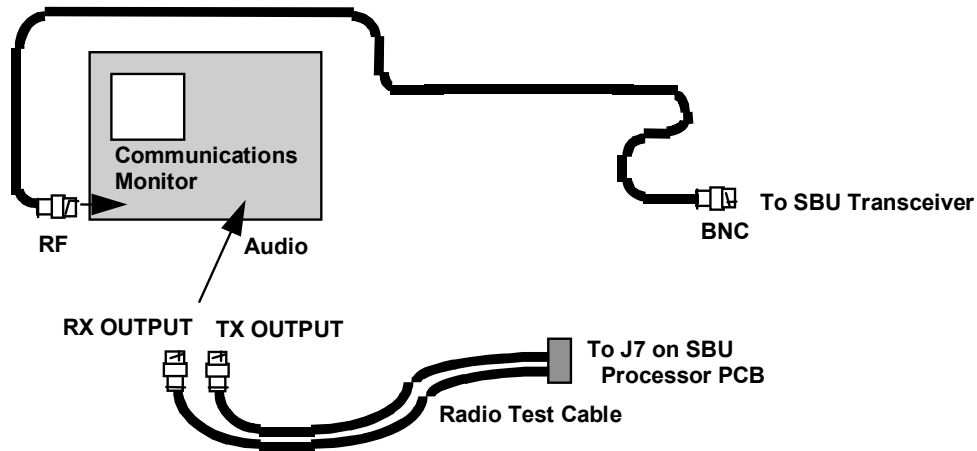

Figure 2-8 - Connection to Communications Monitor
3. Disconnect the Watt Meter from the SBU and connect the SBU to the Communications Monitor RF IN/OUT port as shown in Figure 2-8.